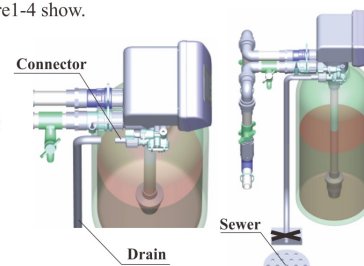

Figure 1-4
- If the valve belongs to time clock type, there are no step ② and ③.
⑤ Install drain pipeline
a. As the Figure 1-4 shows, slide the drain hose connector into drain outlet.
b. Locate the drain hose well as the Figure 1-4 show.
- Be sure not connect drain with sewer directly, and leave a certain space between them, avoid wastewater being absorbing to the water treatment equipment, such as showed in the Figure 1-4.